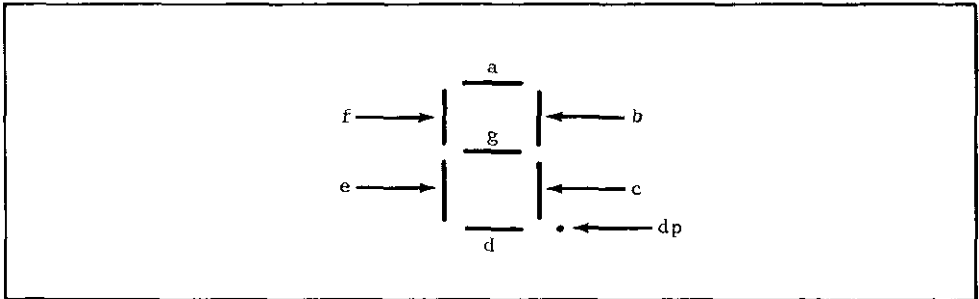

FIGURE 15. Identification of Segments.
c. Digital Display. The display is a completely solid-state, 7-segment display which was custom-designed for the 167. The LED (light emitting diode) was chosen for its small size, ruggedness, and low power dissipation. Since each digit is turned on by a separate multiplex line, only eight lines are driven at any one time. Each segment is identified as shown in Figure 15.